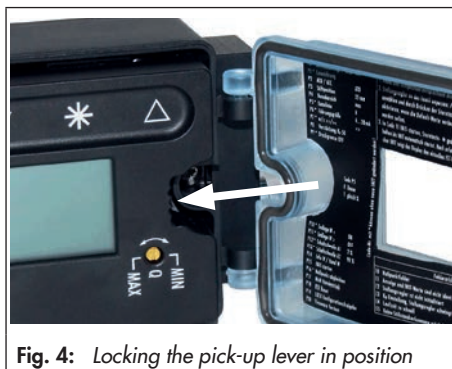

Fig. 4: Locking the pick-up lever in position
5. Insert formed seal (15) into the groove of the positioner housing.
6. Place positioner on the actuator in such a manner that the follower pin (2) rests on top of the follower clamp (3). While doing this, press on the ribbed area shown in Fig. 4 to lock the pick-up lever in the top position. The lever (1) must rest on the follower clamp with spring force.
While doing this, press on the ribbed area to lock the pick-up lever in the top position (see Fig. 4 on page 14).